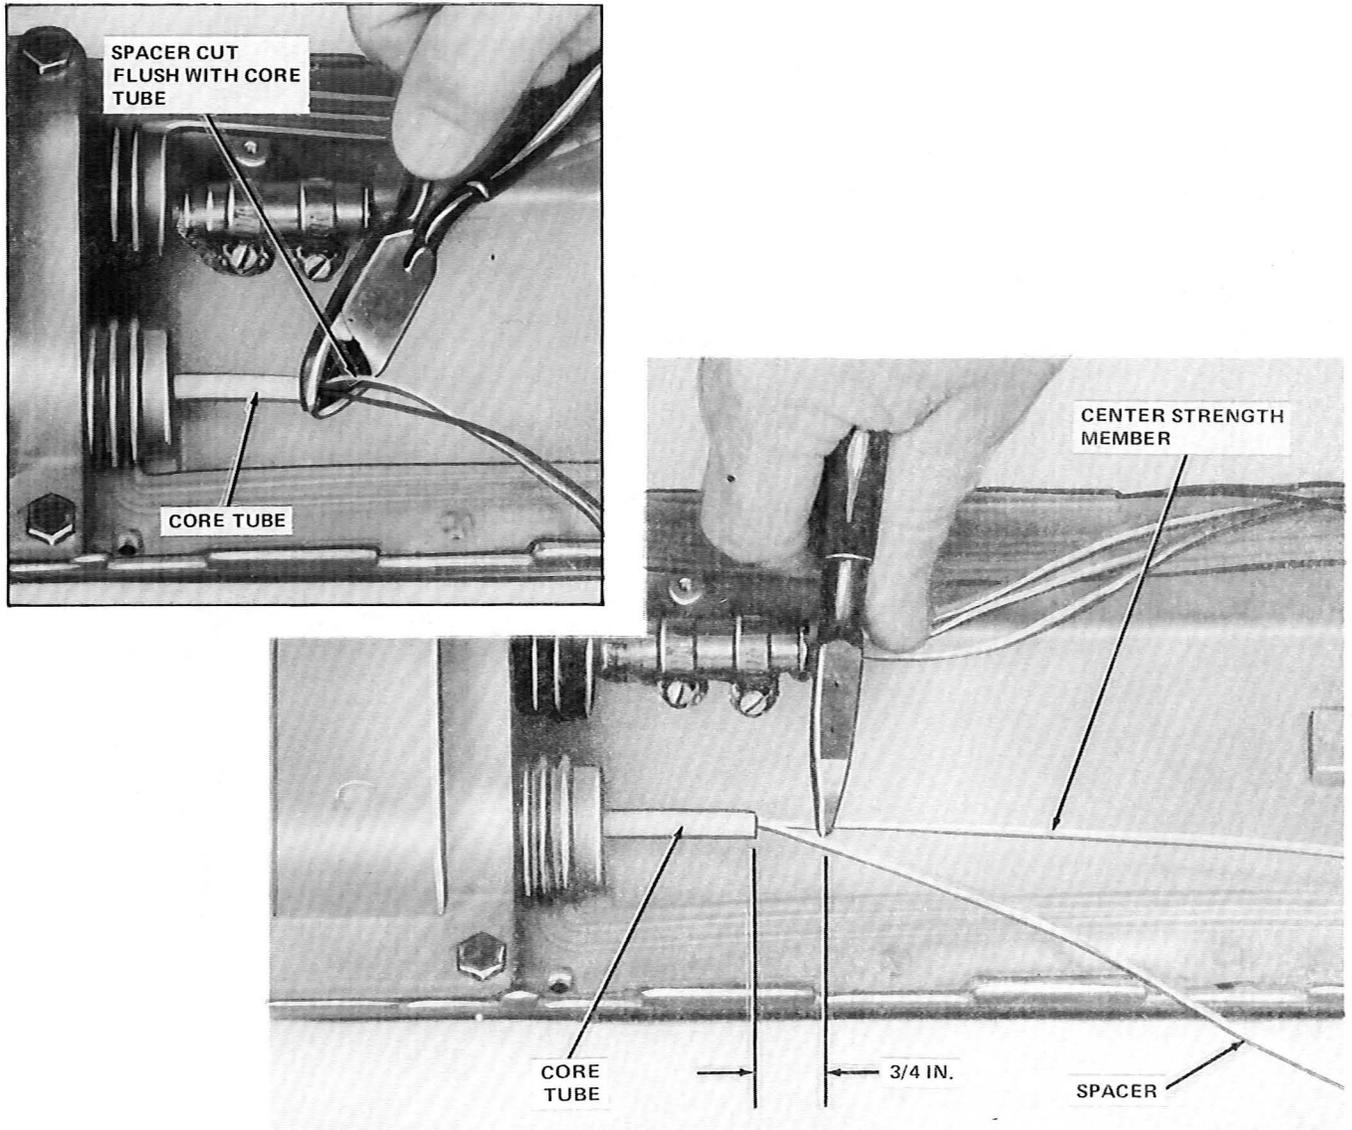

Fig. 42—Cutting Center Strength Member and Spacer (Single-Unit Stranded Cable)
6.04 Separate *all* bare fibers from the center strength member and the spacer. Count the fibers to ensure that all bare fibers are clear of the strength member and spacer. **Do not cut the bare fibers.** Cut the center strength member 3/4 inch from the end of the core tube and then cut the spacer flush with the end of the core tube, as shown in Fig. 42.